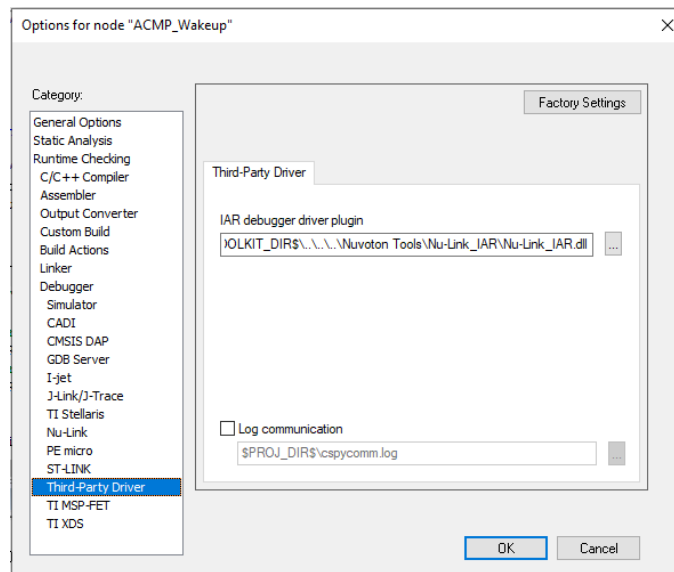

Figure 4-19 Set the Path of the IAR EWARM Debugger Driver Plugin
Step 7: In the **Third-Party Driver** page, specify the path of the IAR debugger driver plugin “C:\Program Files\Nuvoton Tools\Nu-Link_IAR\Nu-Link_IAR.dll”, as shown in Figure 4-19.